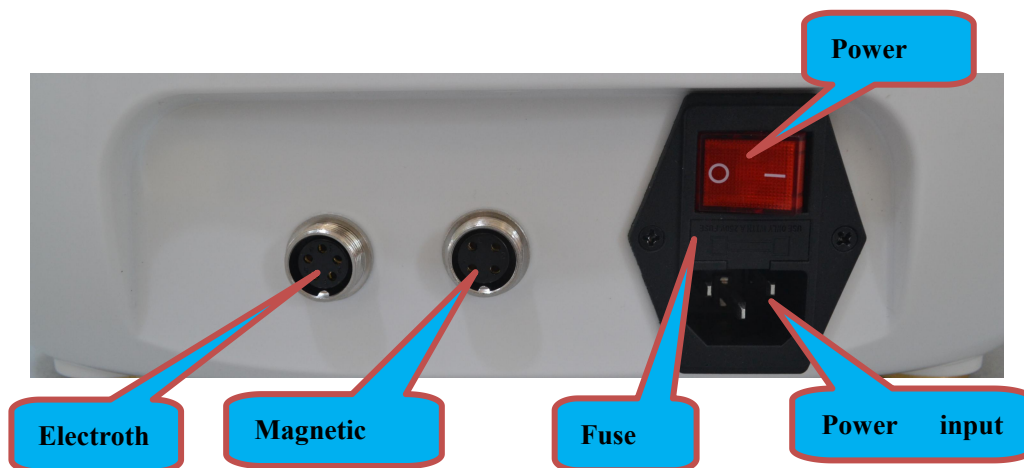

Figure 2: Schematic diagram of input and output connection of therapeutic apparatus
(II) Connection of therapeutic apparatus (as shown in Figure 2)